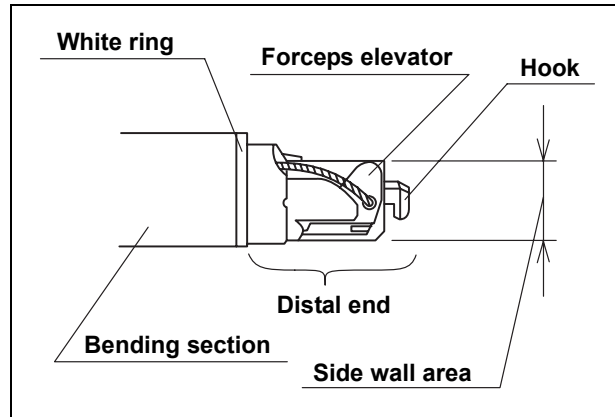

Figure 3.15
1. Keep the bending section straight and move the elevator control lever to set the forceps elevator beside the side wall area of the distal end as shown in Figure 3.15.